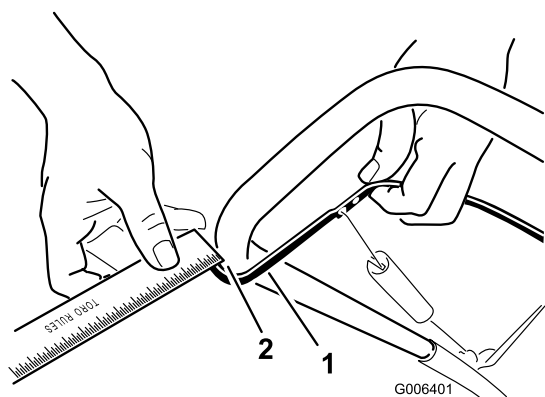

Figure 25
Move the control bar back toward the handle to remove the slack in the control cable (Figure 25).
Note: Ensure that a 1/16-inch to 1/8-inch (2 mm to 3 mm) gap exists between the control bar and the handle (Figure 25).
- Move the Z-fitting to a higher or lower hole on the adjuster link as needed to obtain the 1/16-inch to 1/8-inch (2 mm to 3 mm) gap between the control bar and the handle (Figure 25).